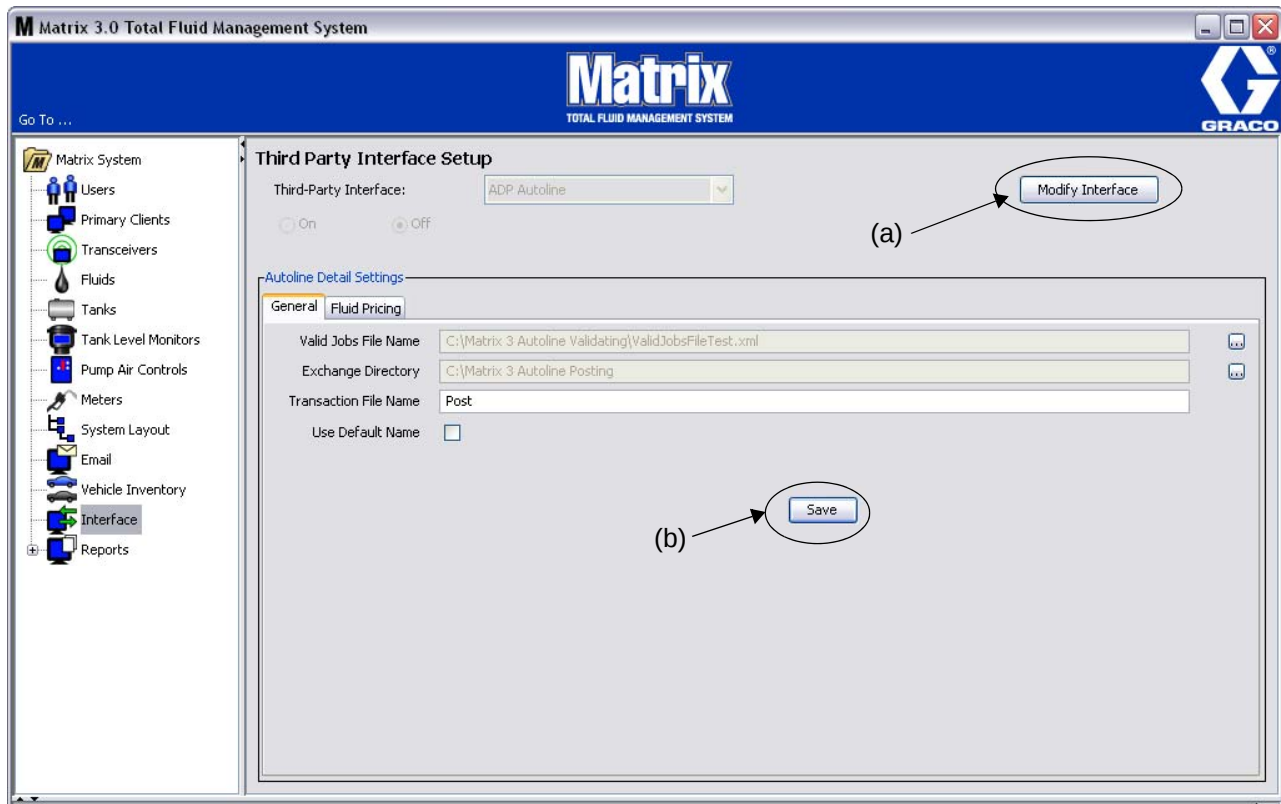
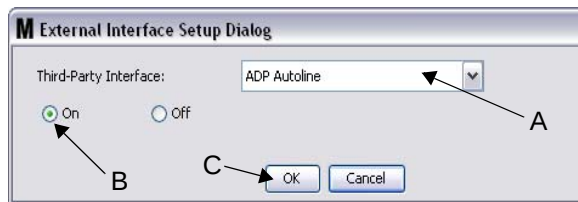

FIG. 1
FIG. 3 External Interface Setup Dialog
- **Modify Interface button (a):** Clicking button displays the External Interface Setup Dialog box shown in FIG. 3, page 5. This dialog box is used to specify the Third Party Interface you are using.
1. Click the **Modify Interface** button (b) (FIG. 1). The External Interface Setup Dialog box shown in FIG. 3 displays. This dialog box is used to specify the Third Party Interface you are using.
2. From the drop down menu (A - FIG. 3) select CDK Global.
3. Click **"ON"** (B - FIG. 3). Third Party Interface enables Matrix to use the third party interface.
4. Click the **OK** button (C - FIG. 3) to close the screen and confirm your selection.